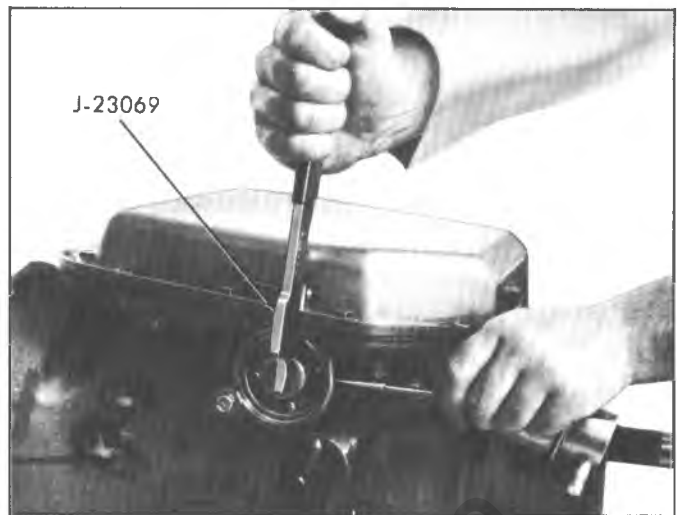

Fig. 50M--Removing Accumulator Piston Cover Retaining Ring
26. Install tool J-23069 to compress intermediate clutch accumulator piston cover and remove retaining ring (fig. 50M).